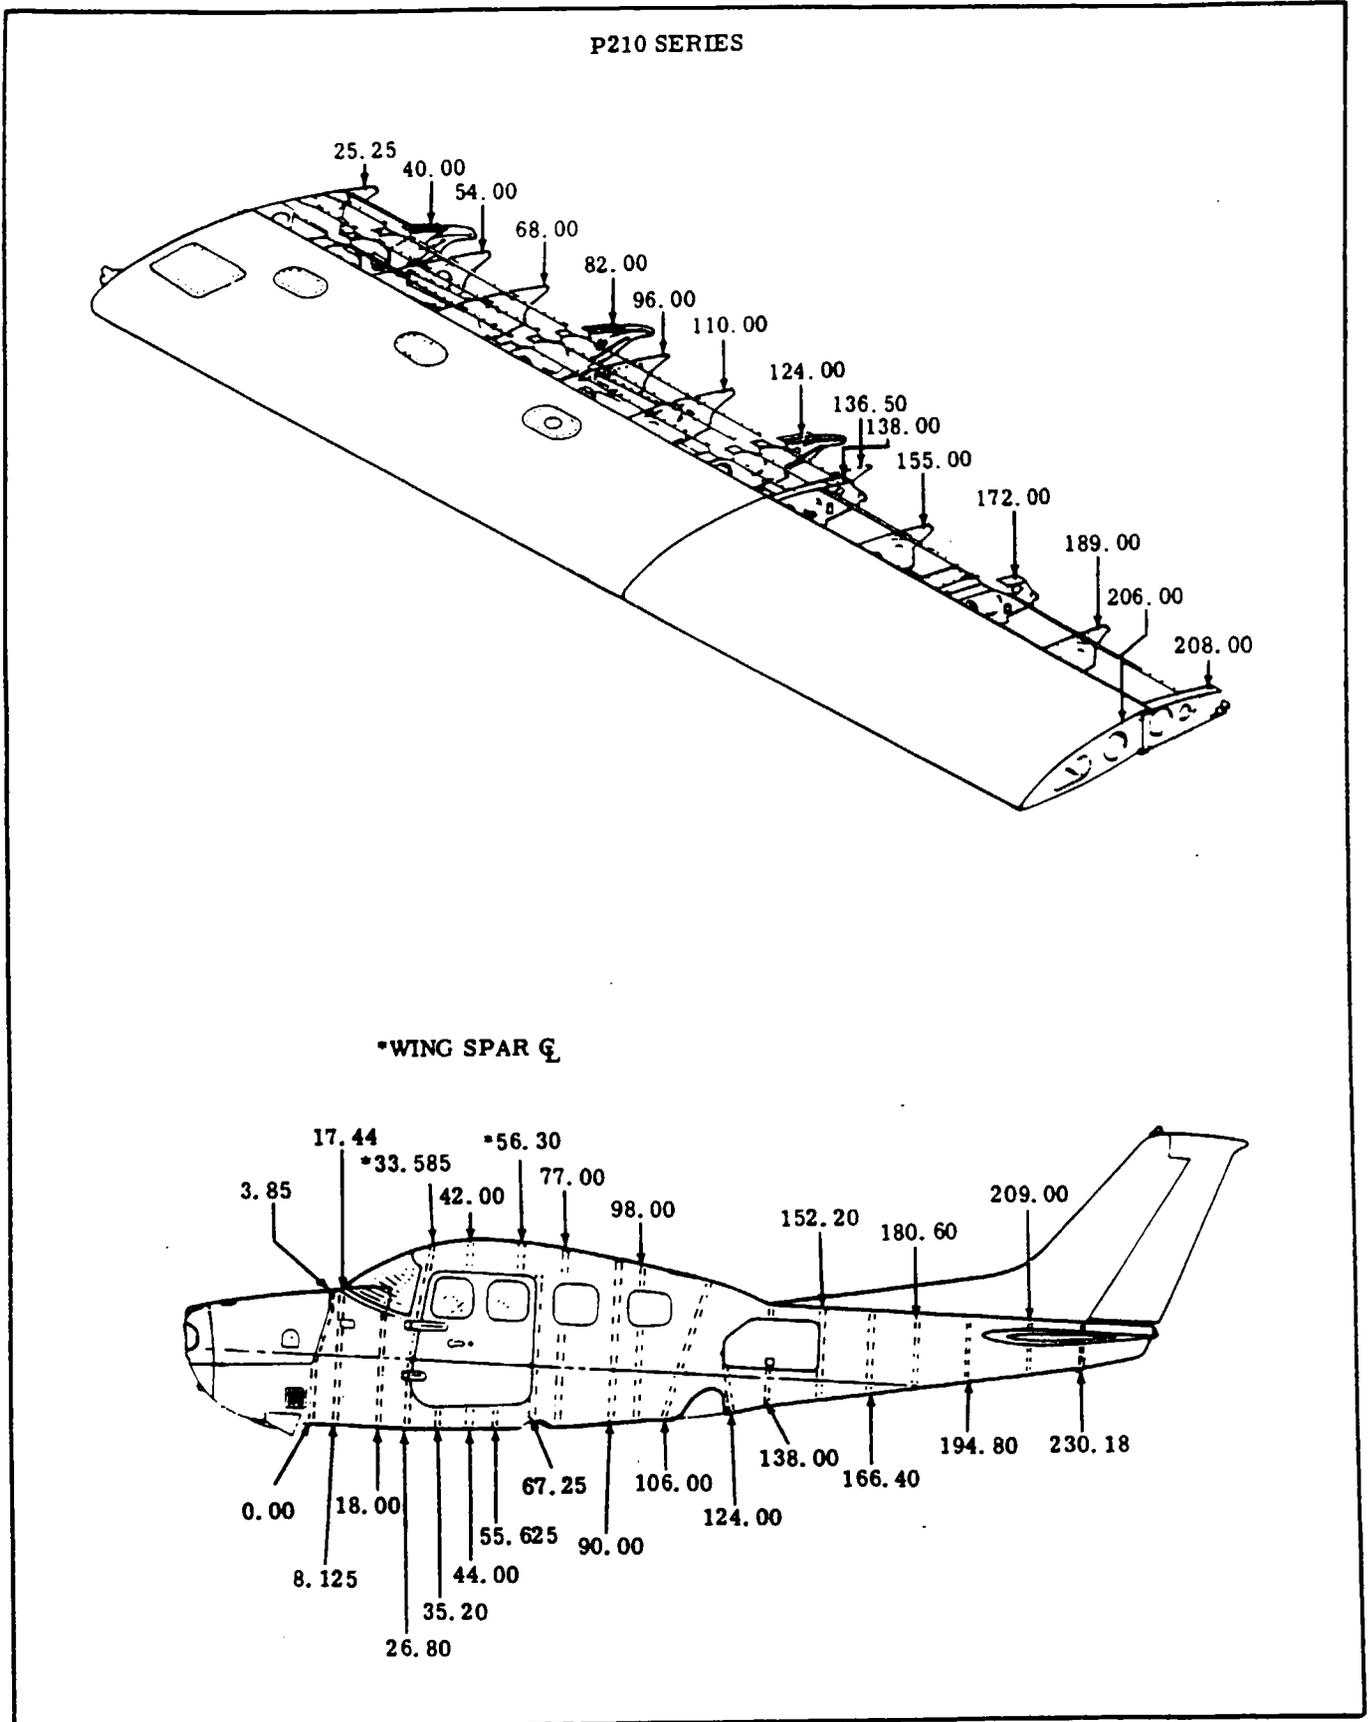

Figure 1-2. Aircraft Specifications.
1-5. STATIONS. A station diagram is shown in figure 1-2 to assist in locating equipment when a written description is inadequate or impractical.
2. When using a torque wrench adapter which changes distance from torque wrench drive to adapter drive, the indicated reading must be adjusted for desired torque reading. (See Figure 1-2.)